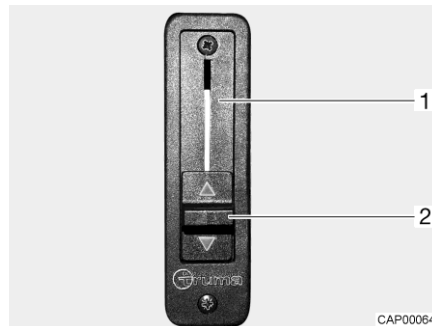

Fig. 10 Sliding regulator for branch block
- Push the sliding regulator (Fig. 10,2) fully upwards. The branch block (Fig. 10,1) is open. The living area heater also heats the windscreen.
- Push the sliding regulator (Fig. 10,2) fully downwards. The branch block is closed. The living area heater and the heater of the base vehicle are disconnected from each other.